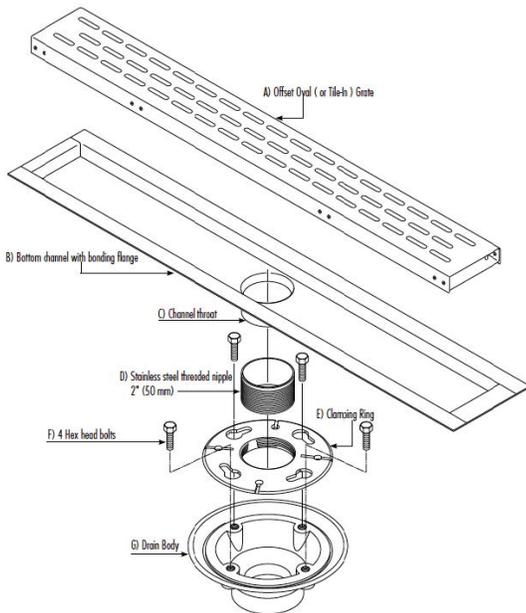

Fig. 4
**Installation Instructions (Fig. 4)** When a drain installation requires a clamping ring with a primary shower pan this can be provided as a custom HYDRO BAN Linear Drain with a 2" (50.8 mm) threaded nipple 1 1/2" (38.1 mm) length. The installation instructions are as follows in Fig. 4.
1. Install the clamping ring drain body (G) to the domestic waste line. Clamping ring drains can be provided in ABS, PVC or Cast Iron. The ABS and PVC will be connected using the appropriate ABS or PVC pipe cement with primer. The cast iron clamping ring drains can either have a no hub connection or a female pipe threaded connection.